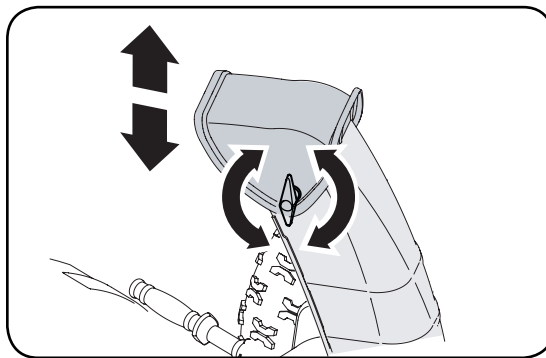

Figure 5-2
3. Pivot the chute upward or downward before retightening the wing knob. See Figure 5-2.